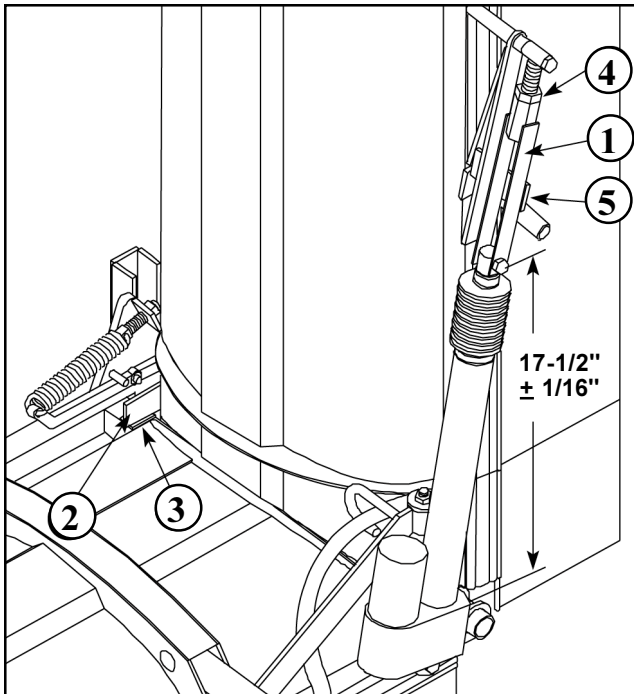

FIG 6
2. Measure the length of the Actuator. It should measure 17-1/2" \pm 1/16" from the face of the Actuator Front Housing to the center of the cap screw. (FIG. 6)